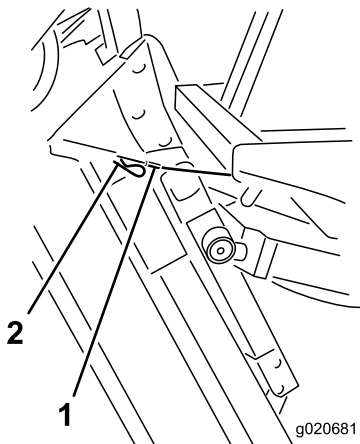

Figure 83
6. Hold the cutting unit upright, fit the cable end over the pin on the cutting unit lift arm, and secure it with the hairpin cotter (Figure 83).